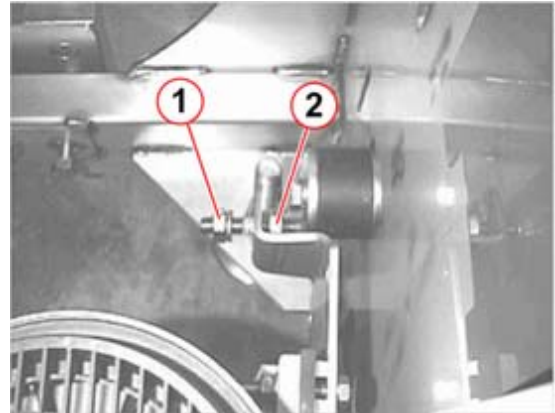

Fig. 27: Belt 2
- Remove the nut "a" (1/Fig. 27 / p. 30) for the toothed belt tension and bring nut "b" (2/Fig. 27 / p. 30) to the maximum inner position. Remove the belt from the bottom side of the vertical motor.